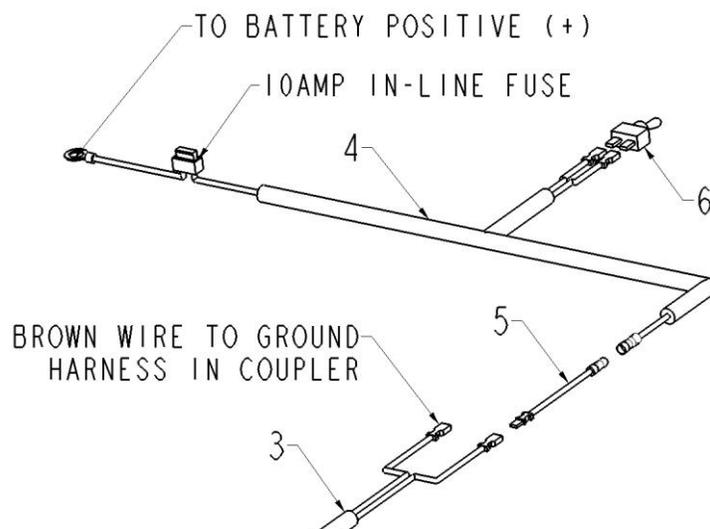

Figure 4. Vehicle Side Light Harness. G10693
- 7) Use Light Harness Jumper Wire (5) found in kit. Attach to Plow Side Light Harness (3) in coupler and run Light Harness Jumper Wire (5) back through Grommet and out of Coupler. See Figure 4.
- 8) Attach Ring Terminal of Vehicle Side Light Harness (4) to Battery Positive (+). Run opposite end with bullet connector to 13-Pin Bumper Plug. See Figure 4.